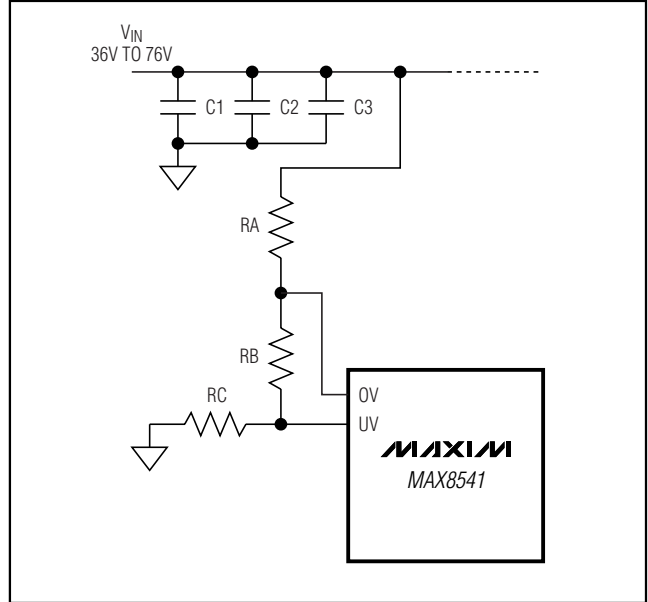

Figure 1. A Method to Set UV and OV Thresholds
An alternate method used in the application circuits for setting the OV and UV trip points is demonstrated in Figure 1. Use 36.5k $\Omega$  for the bottom resistor (RC). RA and RB are calculated as follows: